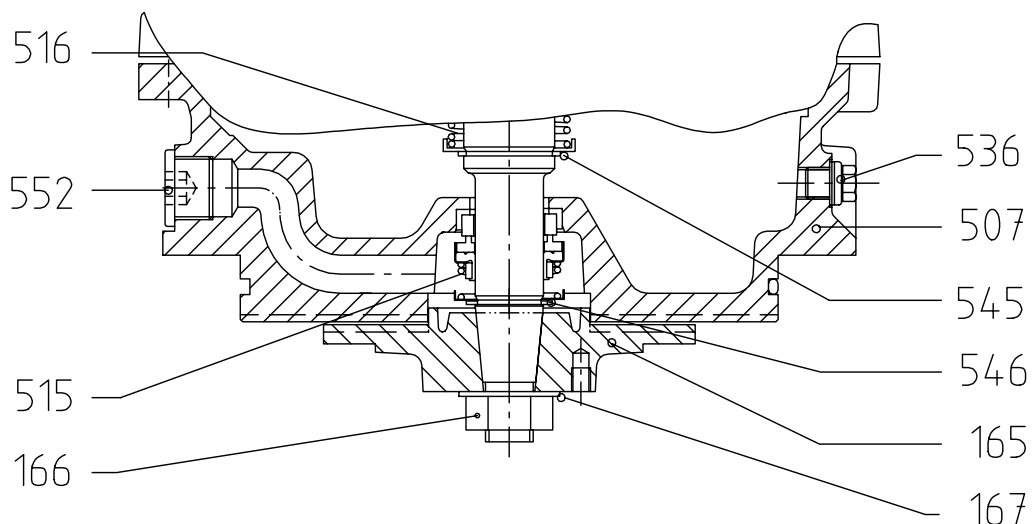

Fig. 12
**e) Stationary seat (all types) (Fig. 12)**